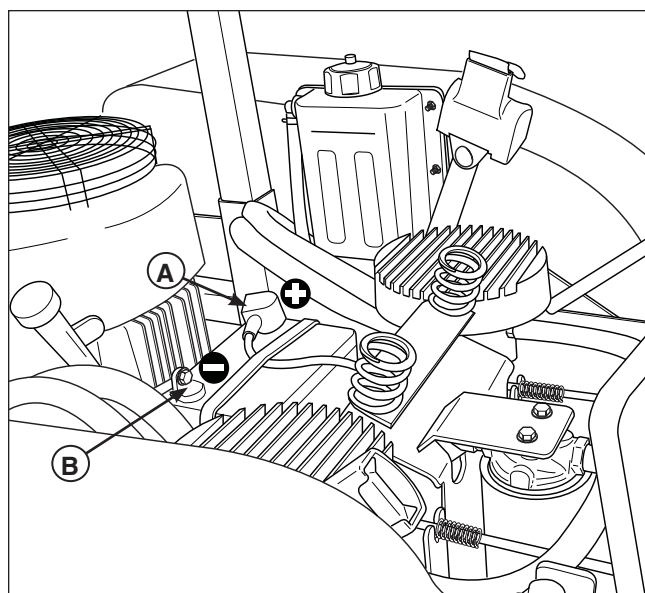

Figure 48. Battery Compartment
1. Disconnect the cables from the battery, negative (black) cable first (B, Figure 48).
3. Reinstall the battery and reattach the battery cables, positive (red) cable first (A).